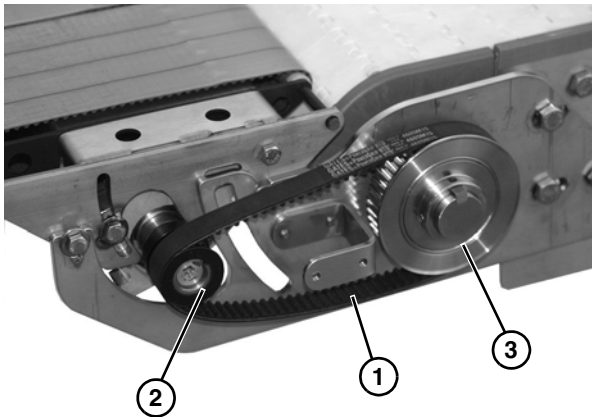

Figure 16
14. Wrap timing belt (Figure 16, item 1) around driven pulley (Figure 16, item 2) and drive pulley (Figure 16, item 3).
You may need to slide driven pulley (Figure 16, item 2) off of shaft to install timing belt (Figure 16, item 1).